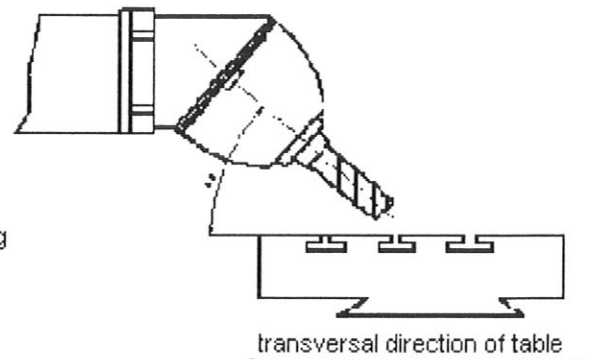

Fig.35
10.2.2.1 When the front part of the spindle is lower than its rear end face(see fig.35):